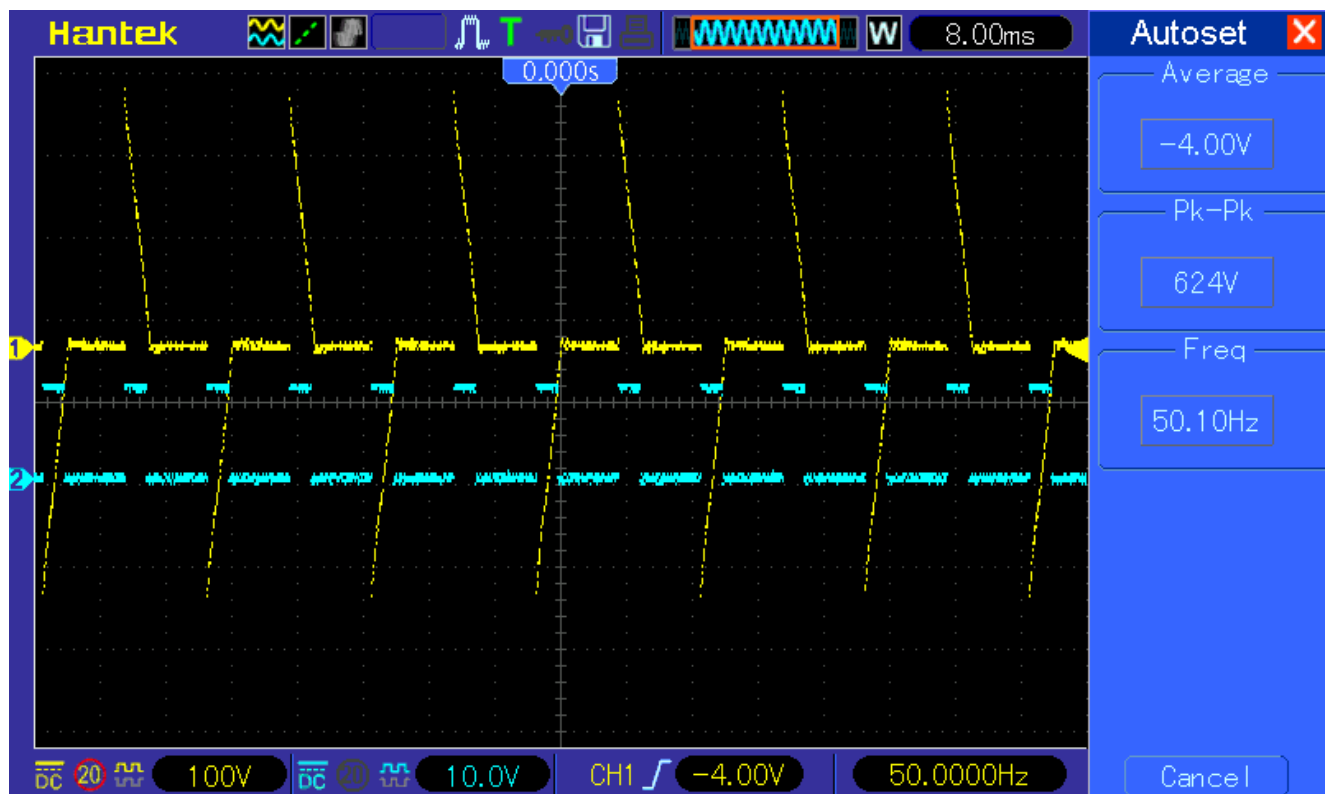

Figure 12 : PWM at 30%
11. Click on tools tab, move mouse pointer to "Port: "COMx", under this click on "COMx" to select. ("x" refers to port number available in your computer) Refer to figure 12.